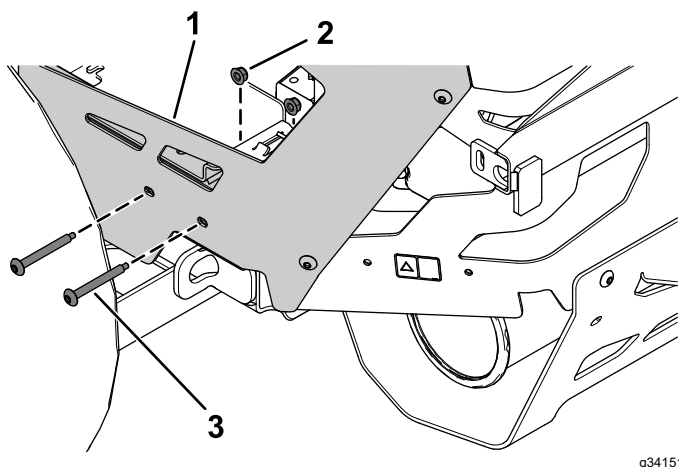

Figure 12
- Remove the 2 torx-head bolts and 2 nuts from the left, rear guard (Figure 12).